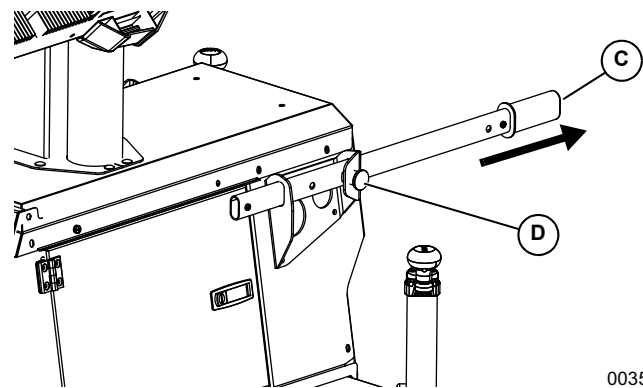

Figure 2-7. Extending the Handles
See **Figure 2-7**. Wheelbarrow-style handles (C) are provided for maneuvering the unit at the work site. Pull the spring-loaded knobs (D) and fully extend each handle. Then release the spring-loaded knobs to lock the handles in place.